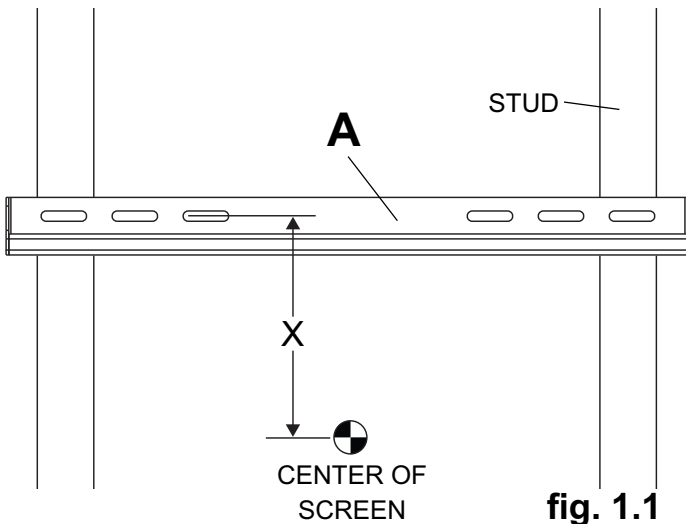
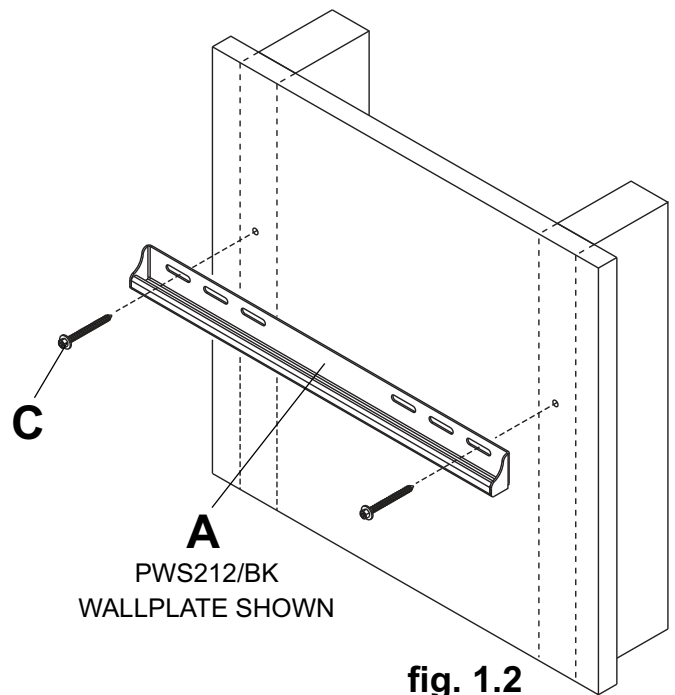

fig. 1.1
fig. 1.2
- 1** Use a stud finder to locate the edges of the studs. Use of an edge-to-edge stud finder is highly recommended. Based on their edges, draw a vertical line down each stud's center. Place wall plate on wall as a template. The top mounting slots should be located above the desired screen center as shown in figure 1.1. **NOTE:** Screen tilt will determine wall plate location. Level plate, and mark the center of the two mounting holes. Make sure that the mounting holes are on the stud centerlines. Drill two 5/32" (4 mm) dia. holes 2.5" (64 mm) deep. Make sure that the wall plate is level, secure it using two #14 x 63.5 mm wood screws (C) as shown in figure 1.2.
1 Make sure that wall plate (A) is level, use it as a template to mark two mounting holes. The top mounting hole should be above the desired screen center as shown in figure 1.1 on page 5 or figure 1.3 on page 6. **NOTE:** Screen tilt will determine wall plate location. Drill two 5/16" (8 mm) dia. holes to a minimum depth of 2.5" (64 mm). Insert anchors (D) in holes flush with wall. Place wall plate over anchors and secure with #14 x 63.5 mm wood screws (C). Level, then tighten all fasteners.